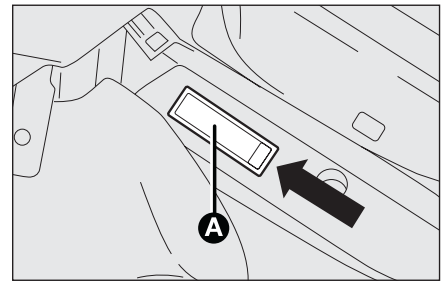

fig. 35
- using the screwdriver provided, extract the ceiling light **A-fig. 35** working in the specified point;